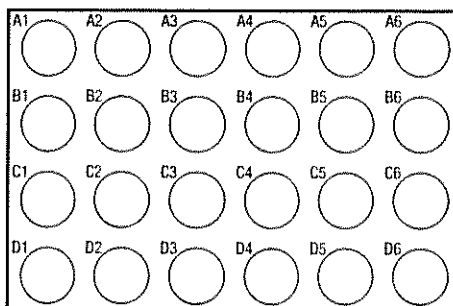

Figure 1. Layout and Numbering of a 24-Well Reaction Plate.
1. Place a 24-well reaction plate on top of a sheet of white paper as shown below. Each well is identified by a unique combination of a letter and a number, where the letter refers to a horizontal row and the number to a vertical column (Figure 1).